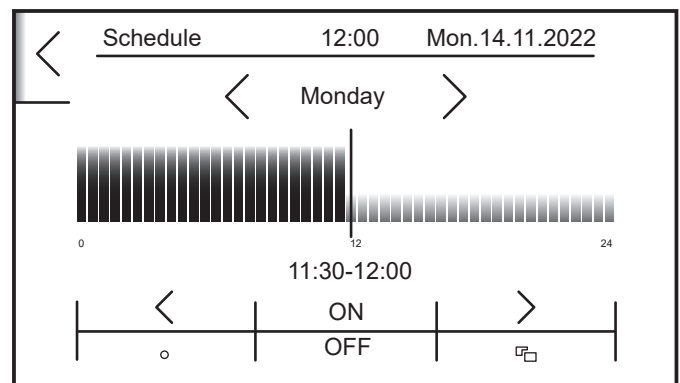

Figure 7-7: DHW/Heat pump time schedule interface
- 3. Modify the day if different to current by tapping navigation arrow. Refer to Figure 7-7.